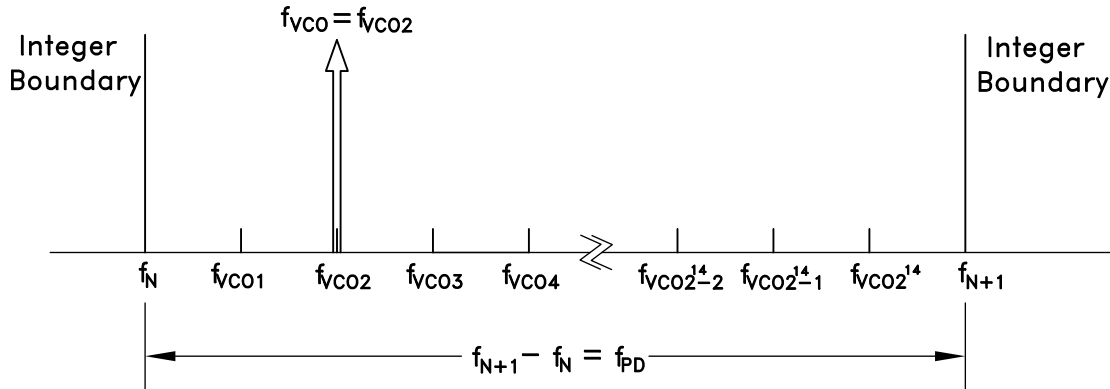

Figure 71. Exact Frequency Tuning
and f_{VCOk} are the channel step frequencies where $0 < k < 2^{24}-1$, As shown in Figure 71.
Some fractional PLLs are able to achieve this by adjusting (shortening) the length of the Phase Accumulator (the denominator or the modulus of the Delta-Sigma modulator) so that the Delta-Sigma modulator phase accumulator repeats at an exact period related to the interval frequency ($f_{VCOk} - f_{VCO(k-1)}$) in Figure 71. Consequently, the shortened accumulator results in more frequent repeating patterns and as a result often leads to spurious emissions at multiples of the repeating pattern period, or at harmonic frequencies of $f_{VCOk} - f_{VCO(k-1)}$. For example, in some applications, these intervals might represent the spacing between radio channels, and the spurious would occur at multiples of the channel spacing.
If it is desirable to have multiple, equally spaced, exact frequency channels that fall within the same interval (ie. $f_N \leq f_{VCOk} < f_{N+1}$) where f_{VCOk} is shown in Figure 71 and $1 \leq k \leq 2^{24}$, it is possible to maintain the same integer-N (Reg 03h) and exact frequency register (Reg 0Ch) settings and only update the fractional register (Reg 04h) setting. The Exact Frequency Channel Mode is possible if EQ 16 is satisfied for at least two equally spaced adjacent frequency channels, i.e. the channel step size.
To configure the HMC1190ALP6NE for Exact Frequency Channel Mode, initially and only at the beginning, integer (Reg 03h) and exact frequency (Reg 0Ch) registers need to be programmed for the smallest f_{VCO} frequency (f_{VCO1} in Figure 71), as follows:
1. Calculate and program the integer register setting $\text{Reg 03h} = N_{INT} = \text{floor}(f_{VCO1}/f_{PD})$, where f_{VCO1} is shown in Figure 71 and corresponds to minimum channel VCO frequency. Then the lower integer boundary frequency is given by $f_N = N_{INT} \cdot f_{PD}$.
$\text{Reg04h} = N_{FRAC} = \text{ceil}\left(\frac{2^{24}(f_{VCOk} - f_N)}{f_{PD}}\right)$ where $f_N = \text{floor}(f_{VCO1}/f_{PD})$, and f_{VCO1} , as shown in Figure 71, represents the smallest channel VCO frequency that is greater than f_N .
4. To change from channel 1 ($f_{VCO1} = 2800.2$ MHz) to channel 2 ($f_{VCO2} = 2800.3$ MHz), only Reg 04h needs to be programmed, as long as all of the desired exact frequencies f_{VCOk} (Figure 71) fall between the same integer-N boundaries ($f_N < f_{VCOk} < f_{N+1}$). In that case